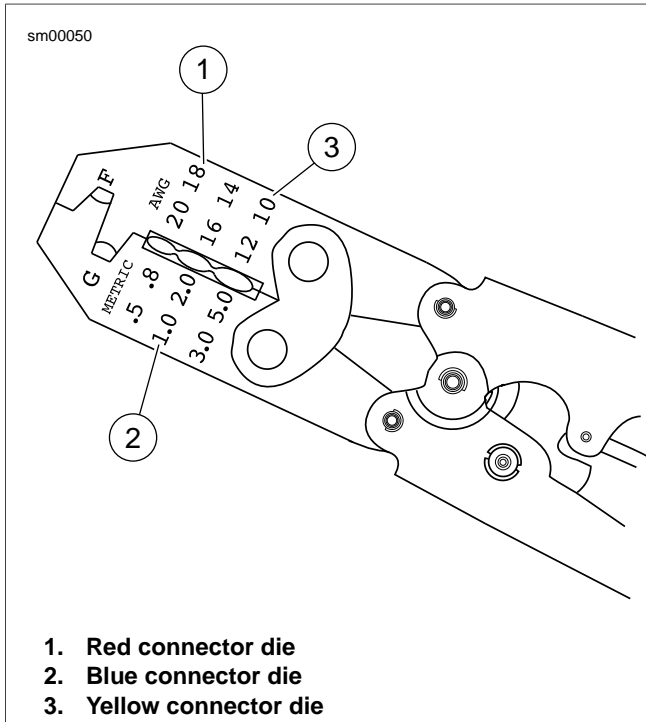

Figure A-49. Packard Crimping Tool (HD-38125-8)
- See Figure A-49. Open the PACKARD CRIMPING TOOL (Part No. HD-38125-8) ratchet by squeezing the handles closed.